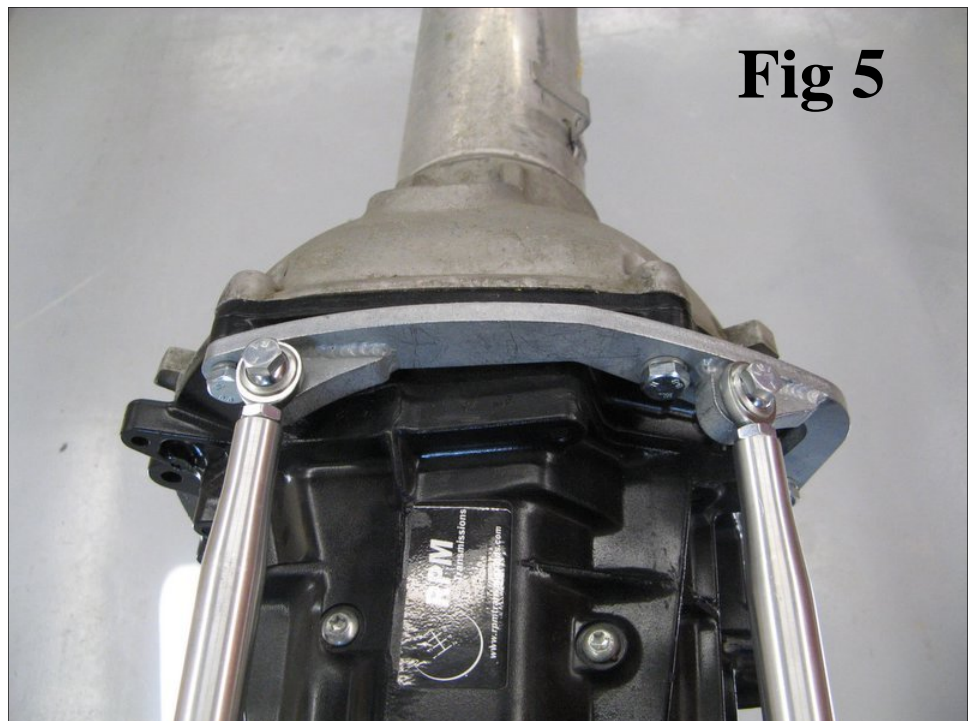

Fig 5
20. Attach the two longer bars onto the top transmission bracket using the supplied 3/8 24 x 1" bolts and lock washer. Position the rods so that the knurled or L/H end is towards the rear. (fig. 5)